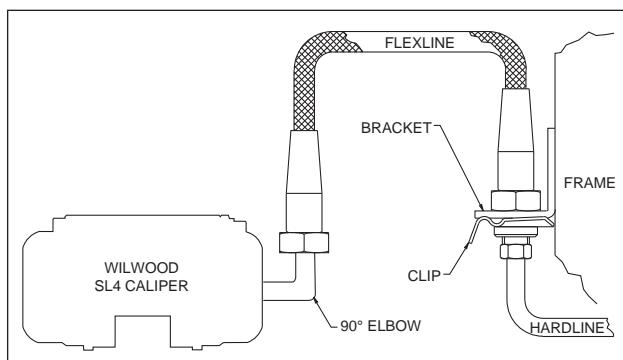

Figure 4. Brake Line Diagram
- Remove the caliper center bridge pad retainer bolt, nut, and tube from the caliper. Insert the brake pads (12) into the caliper, with the friction material facing the rotor, as shown in Photo 4. Check that the top of the brake pad is flush with the outside diameter of the rotor, Photo 5. If not, adjust by adding or subtracting shims (11) between the caliper and the bracket. After the caliper pad height is set, reinstall the center bridge pad retainer tube, bolt, and lock nut. The lock nut should be snug without play in the bolt or tube. Be cautious not to over tighten. Torque the caliper lock nuts (8) to 30 ft-lb.
•**NOTE:** *The caliper in this brake kit utilizes a 1/8-27 NPT pipe thread inlet. OEM rubber brake hoses generally cannot be adapted to Wilwood calipers. Wilwood offers a brake flex line hose kit to fit this application, order P/N 220-8177 for C5, or 220-9101 for C6 (NOT included in kit), see Figure 4. Hose kit includes hoses, fittings, etc., all in one package for this application. **Carefully route hoses to***